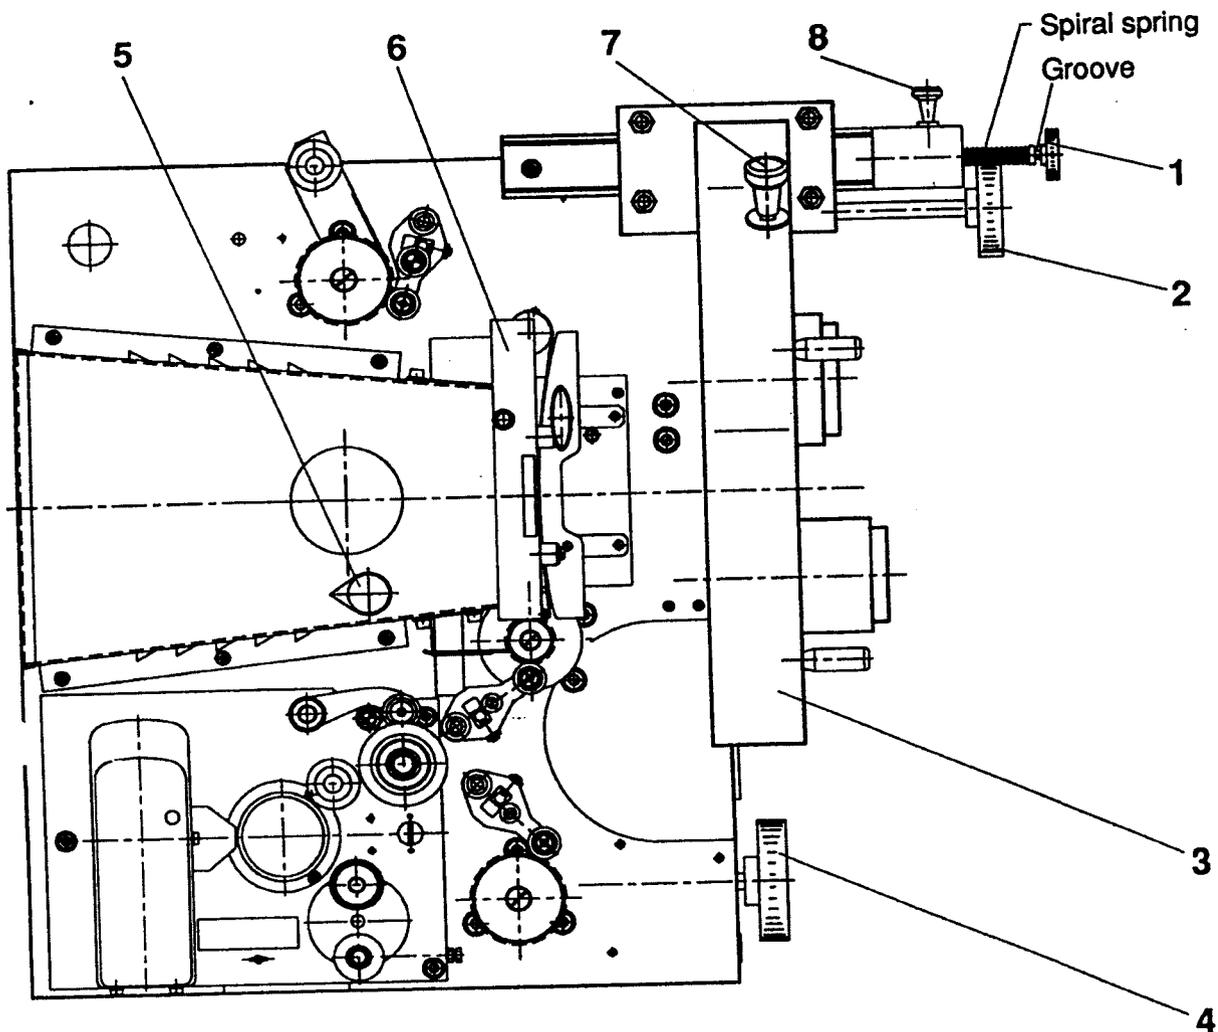
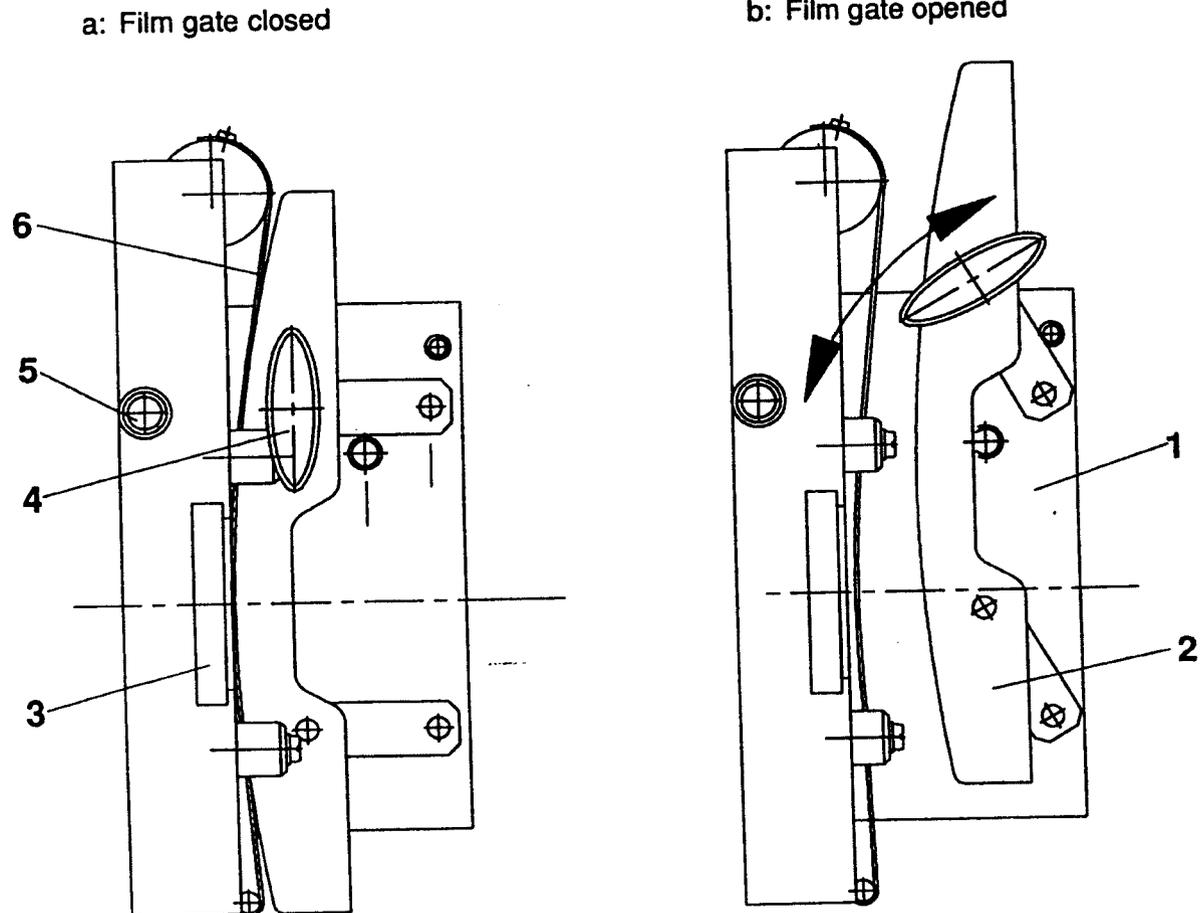

Fig. 2-1: Projector Mechanism
Fig. 2-2: Film Gate
1. As a first step, inform yourself about the projector (Projector Mechanism, Fig. 2-1) and the film gate (Fig. 2-2).
2. Open the film gate (2-2): Turn the swivel knob (2-2/4) clockwise, parallel-guided film gate opens (see Fig. 2-2/a and 2-2/b).
- via the pressure roller (2-3/11) to the film gate (Fig. 2-2)
- Close the film gate (Fig. 2-2): Turn the swivel knob (2-2/4) counterclockwise, the parallel-guided film gate closes (see Fig. 2-2/a and 2-2/b).